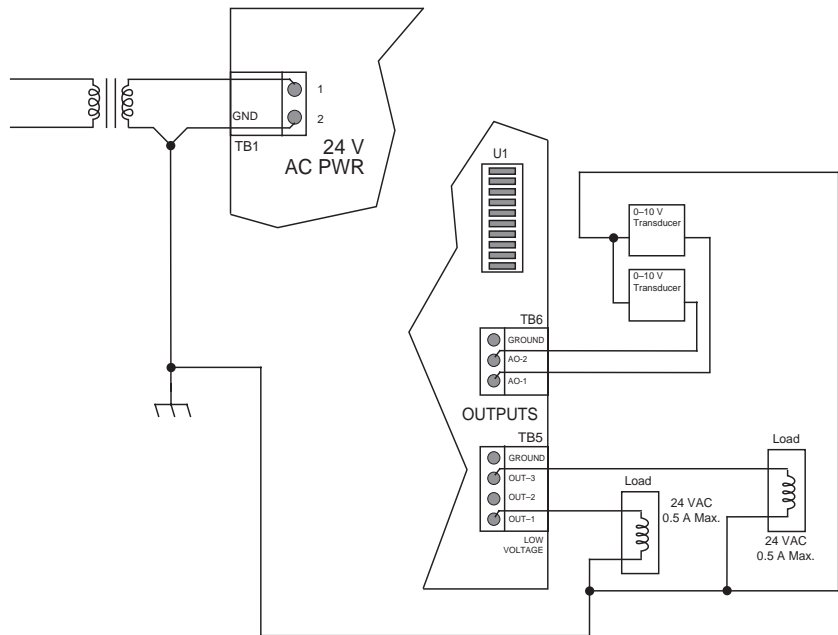

Figure 15. MR632 Triac/AO Output Connections
1. Connect one lead from the device to the desired output (OUT-1 through OUT-3) terminal on TB5 (see Figure 15).
1. Connect one lead from the device to the desired output (AO-1 or AO-2) terminal at TB6 (see Figure 15).